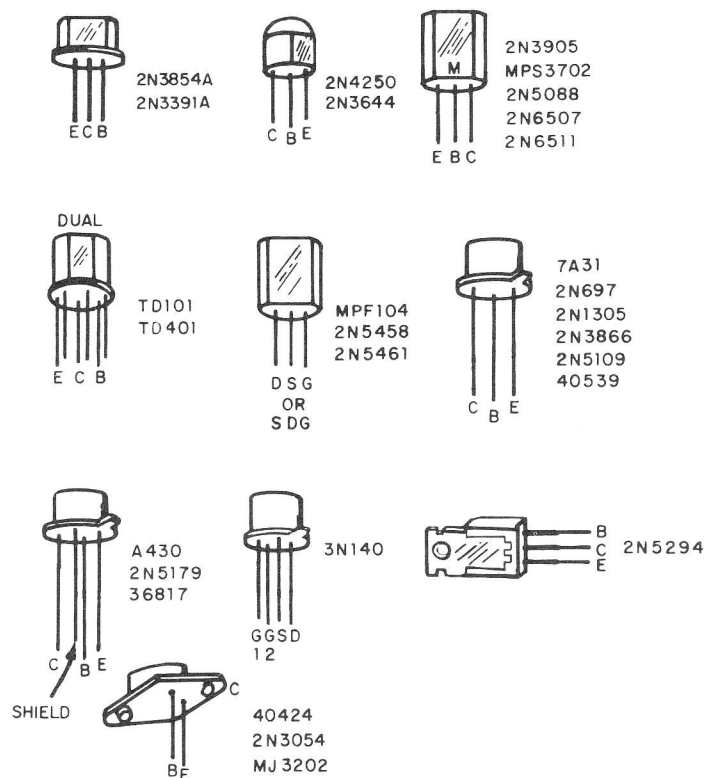

Figure 5-3. Transistor Lead Configuration
5.2.3 TRANSISTOR LEAD CONFIGURATION – Transistor lead configurations are shown in Figure 5-3.